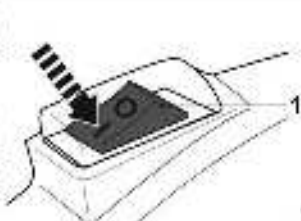

Fig. 12
- > Set the ignition switch (1) to the ON position I to start the product (Fig. 12).